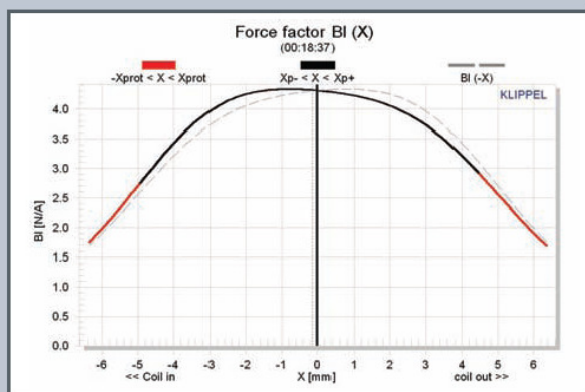
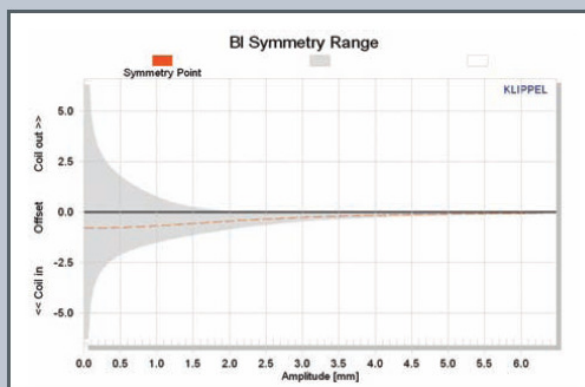

FIGURE 20: Klippel Analyzer BI (X) curve for the 12W/4524G00.
FIGURE 21: Klippel Analyzer BI symmetry range curve.
Klippel analysis for the 12W midwoofer produced the BI(X), Kms(X), and BI and Kms symmetry range plots given in Figs. 20-23. The BI(X) curve (Fig. 20) is moderately broad and symmetrical, with a coil-in (rearward) offset. In the BI symmetry range curve in Fig. 21, there is a 0.8mm coil-in (rearward) offset that goes to 0.3mm at the physical Xmax position (3mm), so not too bad.